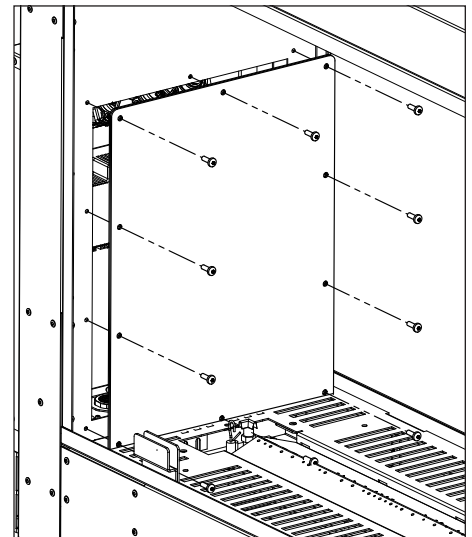

Figure 13: Component Cover Removal
3. Using a T20 screwdriver remove the 10 screws from the black cover plate on the firebox side to gain access to the components and connections (Figure 13).